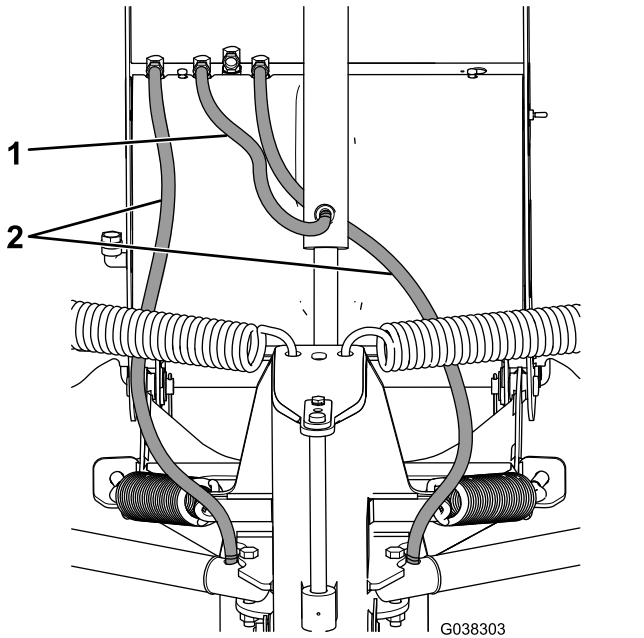

Figure 12
- Install a swivel fitting to the lower port on the lift cylinder (Figure 12).
lower fitting on the lift cylinder (Figure 12). Turn the fitting until it is finger tight, then turn it 2 to 3 more times.
4. Install the O-ring end of the 106 cm (42 inch) hydraulic hose to the port on the right angle cylinder and the other end to the right fitting on the hydraulic shelf (Figure 12). Turn the fitting until it is finger tight, then turn it 2 to 3 more times.